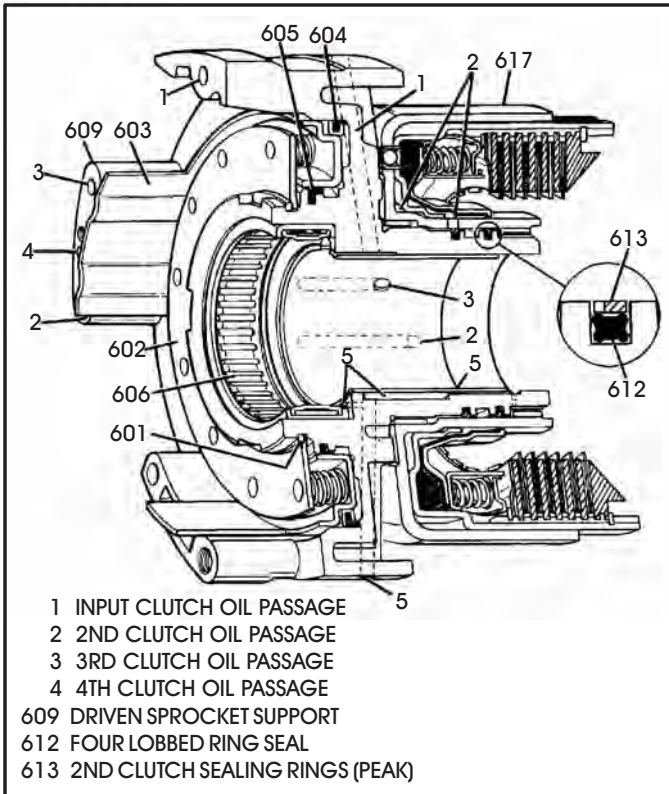

Figure 137
14. Install driven sprocket support assembly into the 2nd clutch drum assembly, as shown in Figure 137.
15. Apply air pressure regulated to 20 psi to feed hole marked "2", as shown in Figure 137, and listen for 2nd clutches to apply and hold the air pressure for 5 seconds.
16. Apply air pressure regulated to 20 psi to feed hole marked "4", as shown in Figure 137, and watch for 4th clutch piston to apply.